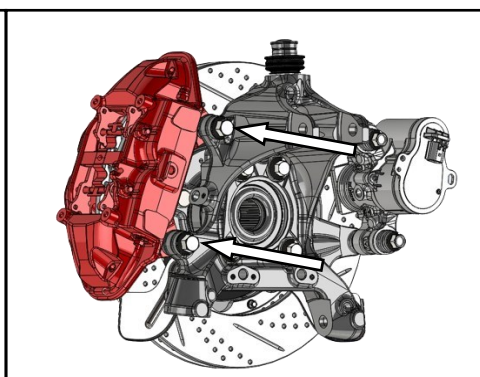

FIGURE 9. CALIPER REINSTALLATION
2. Carefully reinstall the caliper to the knuckle using the existing hardware removed in step 5 on the previous page (Figure 9). Torque the hardware to manufacturer specifications to secure the caliper to the knuckle.